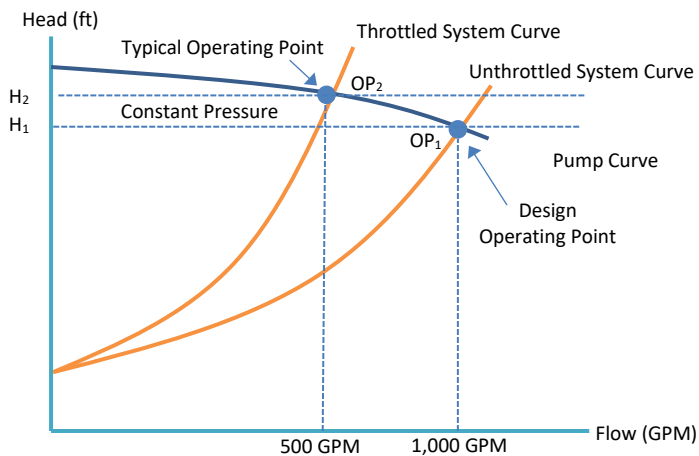

Figure 3-7 Pump and System Curves
2-Way Control Valves: A system using **2-Way Control Valves (CV)** vary the flow by modulating the valve positions. Closing the valve reduces flow and increases friction. A typical operating point for a 2-Pipe system is shown at OP₂ in Figure 3-7. This point occurs for a particular partial-load flow obtained by adjusted the control valve. The flow at this point decreases as desired but at an increased system head, so the operating point rides up the pump curve from OP₁ to OP₂.